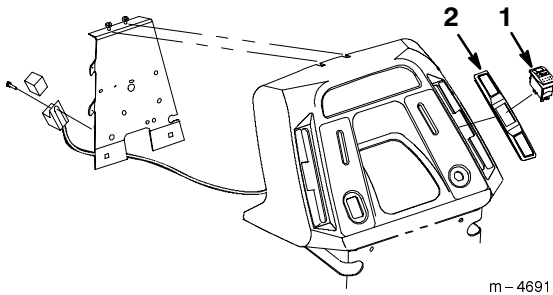

Figure 6
2. Install the new panel and switch into dash of tractor as shown in figure 6.